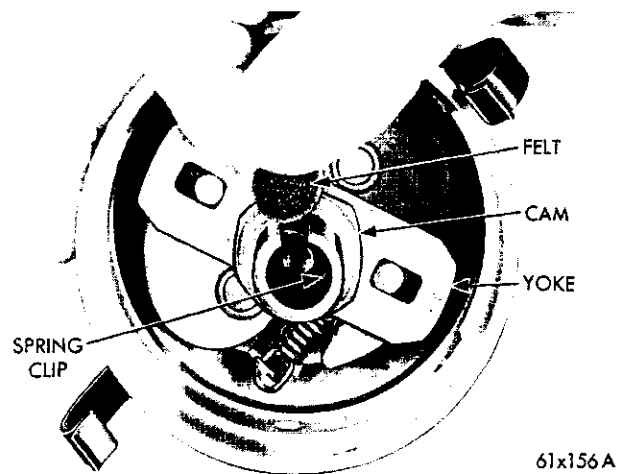

Fig. 81—Removing the Distributor Cam Felt Wick
(2) Remove the retainer attaching the vacuum advance unit to the breaker plate advance arm.
(3) Remove the two screws and lockwashers attaching the vacuum advance unit to the distributor housing and remove the unit.
(4) Remove the primary lead wire and rubber grommet as an assembly. Push the grommet towards the inside of distributor to remove. Do not pull the wire.
(5) Remove the two screws and lockwashers attaching the breaker plate to the housing and lift out the breaker plate, points and condenser as an assembly.
(6) Remove the oil wick from the distributor cam (Fig. 81). Remove the spring clip from the oil well in the cam and remove the cam and yoke assembly and spacer.